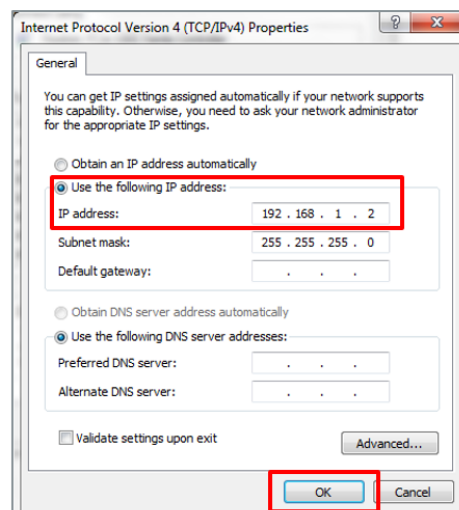

Figure 4-19: Enter IP Address
- Click to select the radio button next to **Use the following IP address**, which will allow you to populate the IP address and Subnet mask fields. In the **IP address** enter **192.168.1.2**, and click **OK**, Figure 4-19.